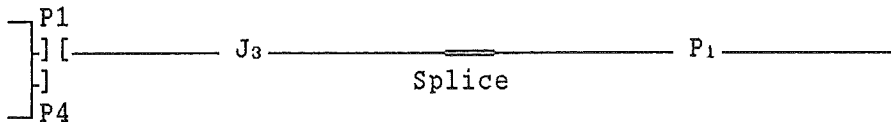

Figure 22-A
** Set up as shown in Figure 22-A.